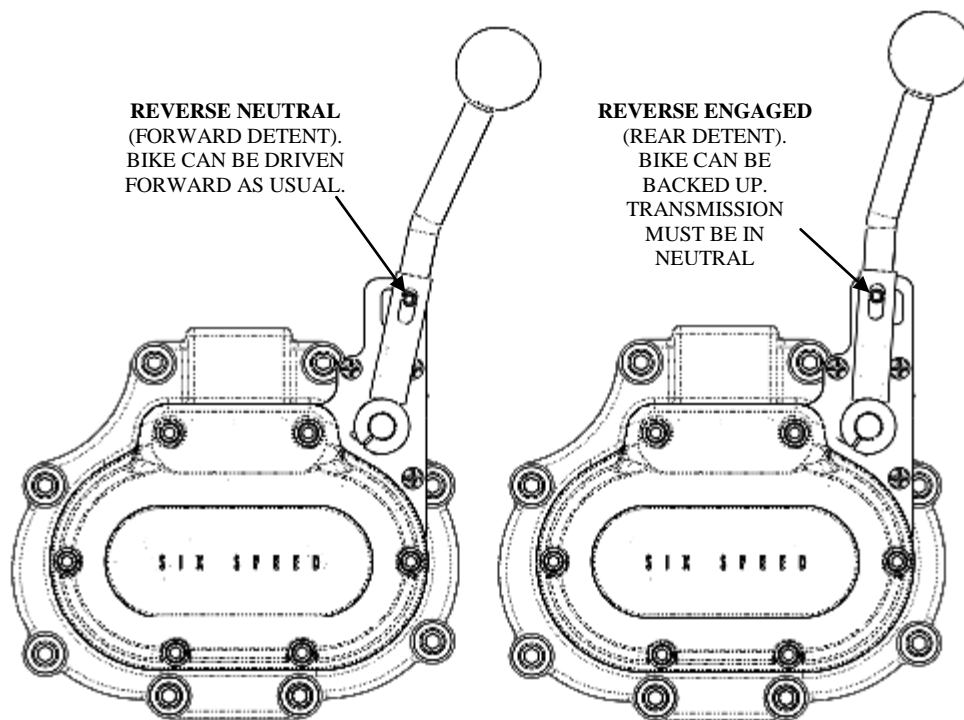

Figure 1: Use image to identify reverse neutral and reverse engaged.
Please use Figure 1 below to identify the reverse neutral or reverse engaged positions.
6. Shift the reverse gear back into the neutral positions. Make sure the spring loaded handle has the detent firmly in the neutral position. See Figure 1. You can now drive your motorcycle forward as usual.